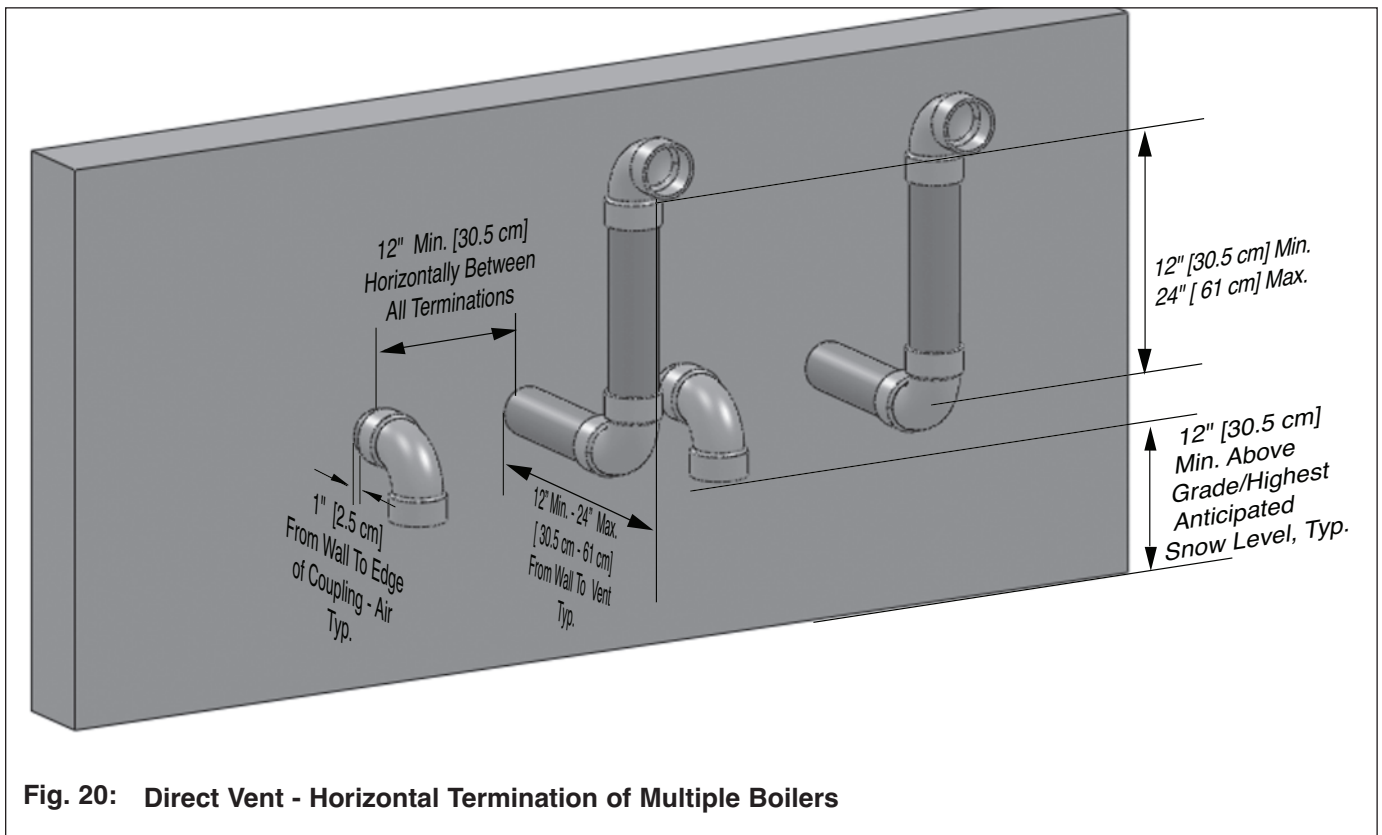

Fig. 20: Direct Vent - Horizontal Termination of Multiple Boilers
2. The wall penetration of the vent and combustion air pipe should be such that the combustion air inlet is a minimum 12" [30.5 cm] from the adjacent vent pipe of the other boiler for installations in the U.S as shown in Fig. 20. For installations in Canada, provide clearances as required by CAN/CSA B149.1.
Fig. 20 shows one option for vent and combustion air terminations of multiple PRESTIGE boilers. Either termination option shown in Figs. 8 or 9 page 17 can be used for multiple PRESTIGE boilers. The 12" [30.5 cm] minimum distance between center-lines of the combustion air and vent piping must be maintained for any chosen option.